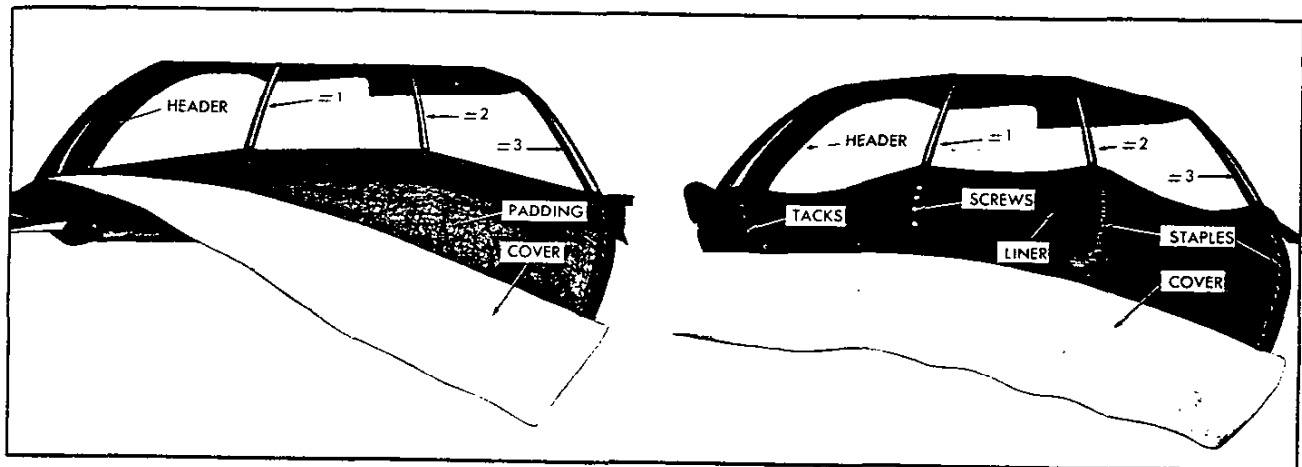
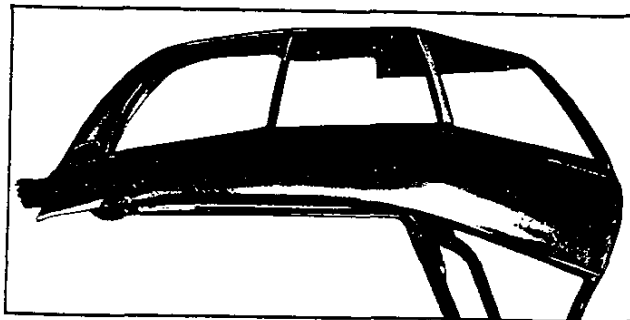

Fig. 73-Pad Construction
Fig. 74-Pad Installed
3. If new pads are required, install at this time, aligning with marks made when old pads were removed. Figure 73 shows pad construction; Figure 74 shows pad installed.